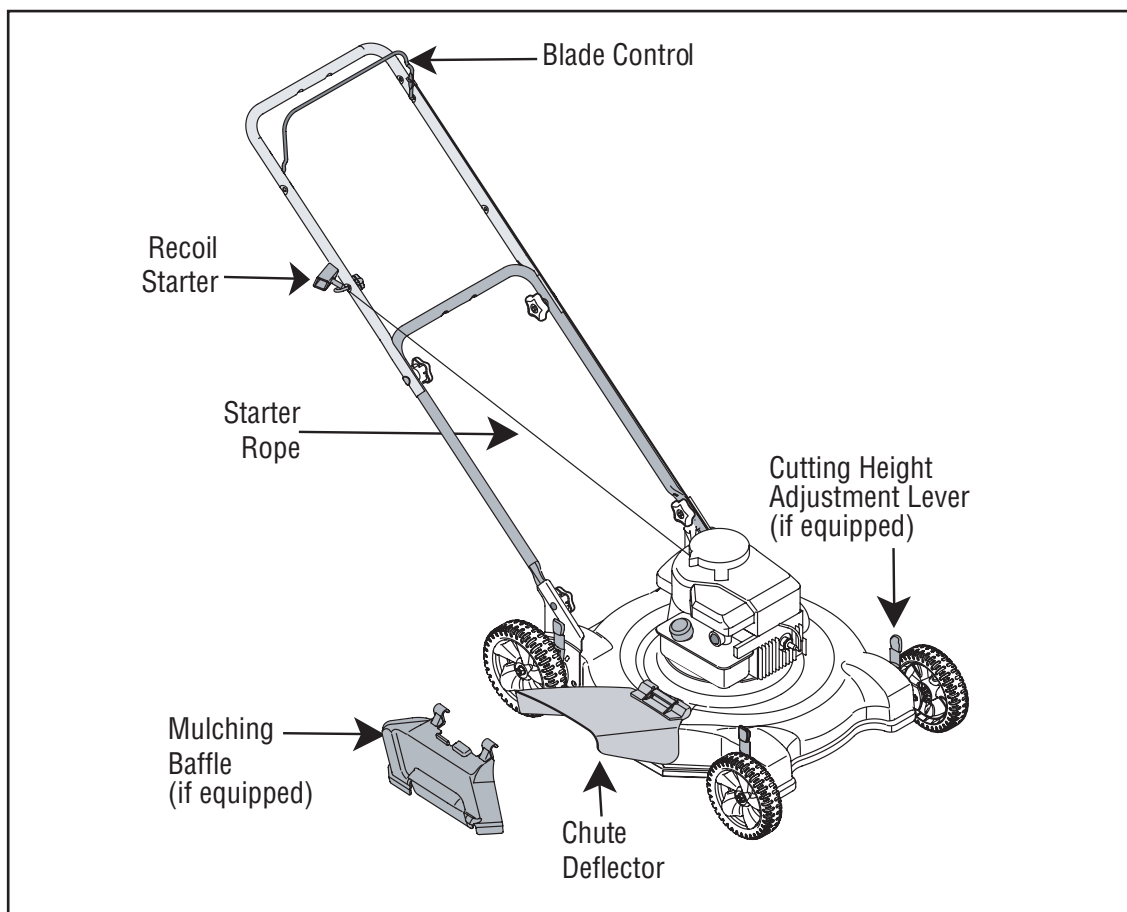

Figure 8
7. If your mower is equipped with an optional mulching baffle, install it as shown in Figure 8.
The blade control handle is located on the upper handle of the mower. See Figure 8. The blade control handle must be depressed in order to operate the unit. Release the blade control handle to stop the engine and blade.